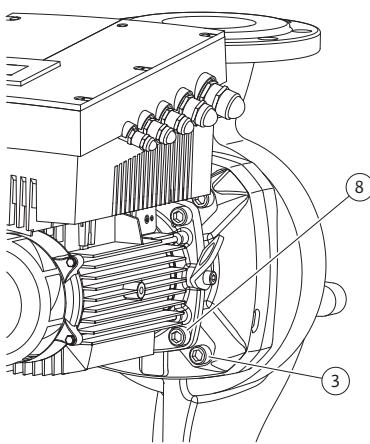

Fig. 46: Optional fixation of the motor impeller unit
11. Loosen and remove the screws (Fig. 7, Item 3). Depending on the pump type, the outer screws (Fig. 46, Item 3) are to be taken out. The motor impeller unit (see Fig. 13) remains securely in the pump housing after the removal of the screws; there is no danger of tipping even in the horizontal position of the motor shaft.
16. Depending on the pump type, loosed the screws (Fig. 7, Item 10) or alternatively, the screws (Fig. 46, Item 8).
when doing this (see chapter 7.1 “Permitted installation positions and change of the arrangement of components before the installation” on page 21). Attach the lantern with the screws (Fig. 7, Item 10) or – for the pump/lantern types in accordance with (Fig. 46) – with the screws (Fig. 46, Item 8) at the motor flange.